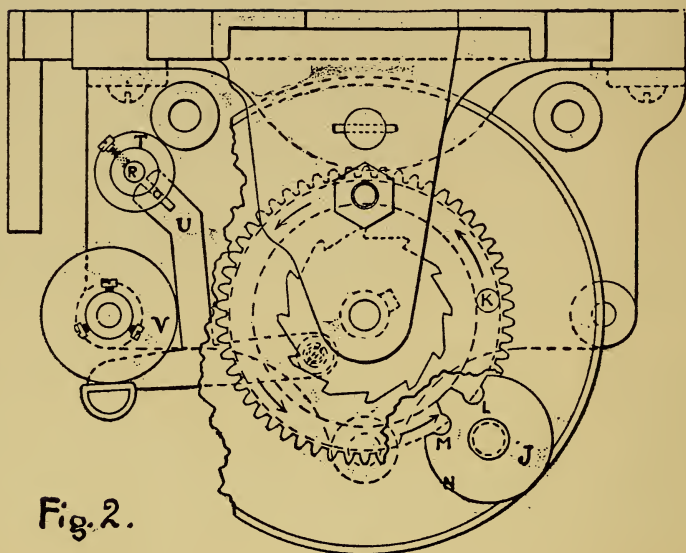
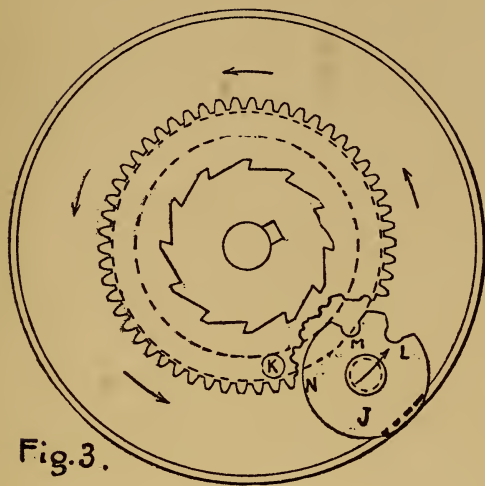

Fig. 2.
Fig. 3.
*The Stop Winding Mechanism* is shown in Fig. 2. This is the device by which overwinding is avoided, thus prolonging the life of the mainspring. Fig. 3. shows the relative position of the stop J and the pin K, after the operation of winding. The pin K is against the stop J, thus stopping the winding. Note that the pin K is on the winding gear and the stop J is on the spring barrel. While winding, the gear wheel and pin K revolve in the direction shown by arrows, the spring barrel remaining stationary. Three and a half turns of the winding key make the gear wheel and pin K revolve once. On the first revolution
As the best results are obtained when the full force of the spring is exerted upon the mechanism, it is highly important that the spring should be coiled up tight in the spring barrel, or nearly so. If such is not the case, the stop J (Fig. 2.) has been moved or jarred by shipment, and has stopped the winding
Should the opposite happen, that is, the spring become fully wound before the pin K touches the stop J, at the point N, let the machine run until the stop J *passes the pin K*, then turn the stop to position shown in figure 3.
Should the return mechanism fail to return, or the coin in the slot fail to start the machine, or the record stop playing half way through, the remedy is simple. Remove the record and revolve the shaft in the opposite direction, or toward the front, until the stop J disengages itself from the pin K, so that it can be adjusted as in Fig. 2; that is, so that the pin K fits into the slot M, thus permitting another revolution of the winding gear, equal to  $3\frac{1}{2}$  turns of the key.
*Stopping* To stop the machine when the record is played to the end, adjust the wire P (Fig. 1) by means of the thumb screw in the speaker arm, so that it just comes into contact with the lever Q at the proper time, thus throwing the nickel out of the coin lever and stopping the mechanism. The coin lever is balanced on the shaft R (See also Fig. 2). The adjustment of the balance is made by moving the weight S (Fig. 1) on the front end of the coin lever. On the other end of shaft R (Fig. 2) near the governor is a disc T with a small pin which works in a slot in the brake lever U. This brake lever comes into contact with the governor disc V, thus stopping the machine.
*To Adjust* While the nickel is on the coin lever the end of the brake lever U (Fig. 2) *should just clear* the governor disc V, thus allowing it to revolve freely. When the nickel drops into the coin drawer, the weight S (Fig. 1) tips down its end of the coin lever, causing shaft R (Fig. 2) to turn, thus throwing pin in disc T upward, causing the brake lever U to press upward upon the governor disc V. If the pressure is not sufficient to stop the governor immediately, loosen the set screw in T, and turn disc toward the front, until the proper pressure of brake on governor disc is obtained.